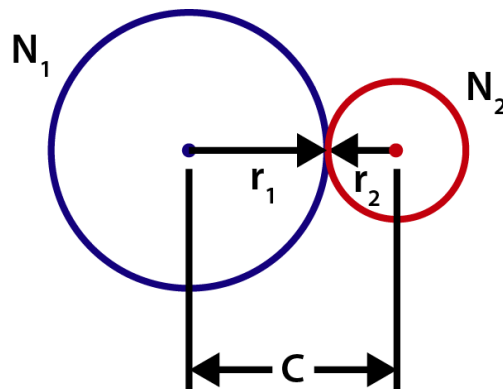

Figure 4: Diagram showing the center-to-center distance of two gears
In addition to the gear ratio, we can also extract the center-to-center (C-C) distance between two gears from their pitches and tooth counts. Equation (8) relates the number of gear teeth for two gears, N_1 and N_2 , and their pitch diameter to the distance between their centers, C . Figure 4 illustrates this, too.